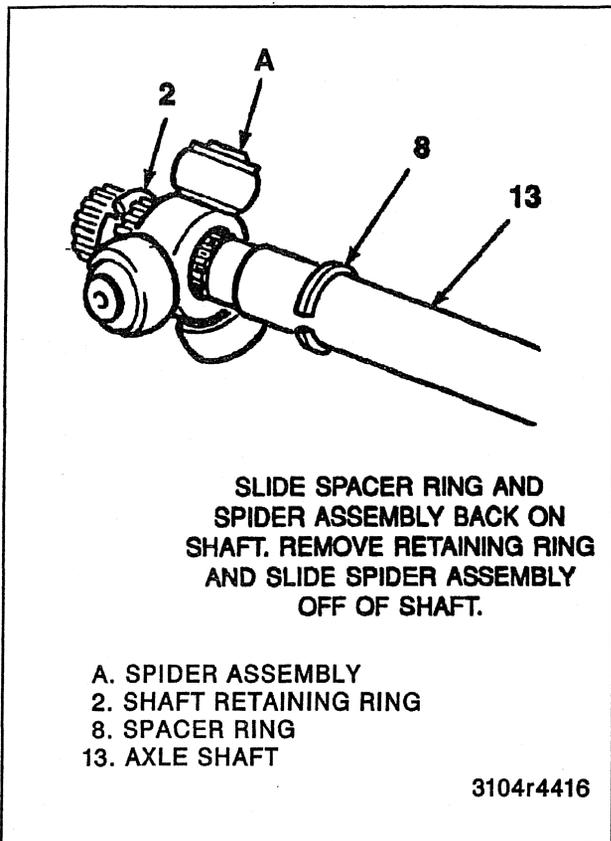

Figure 28—Removing Spider Assembly
- Do not cut through the seal (10) with the chisel and damage the sealing surface of the tripot outer housing (1).
2. Small seal-retaining clamp (11) from the axle shaft (13) with a side cutter, and discard.
- Separate seal (10) from the tripot housing (1) at the large diameter and slide the seal away from the joint along the axle shaft (13).
3. Tripot housing (1) from the spider (3) and shaft.
- Spread the spacer ring (8) with J 8059 and slide the spacer ring and the tripot spider (3) back on the axle shaft (13).
4. Shaft retaining ring (2) from the groove on the axle shaft (13) and slide the spider assembly off the shaft (Figure 28).